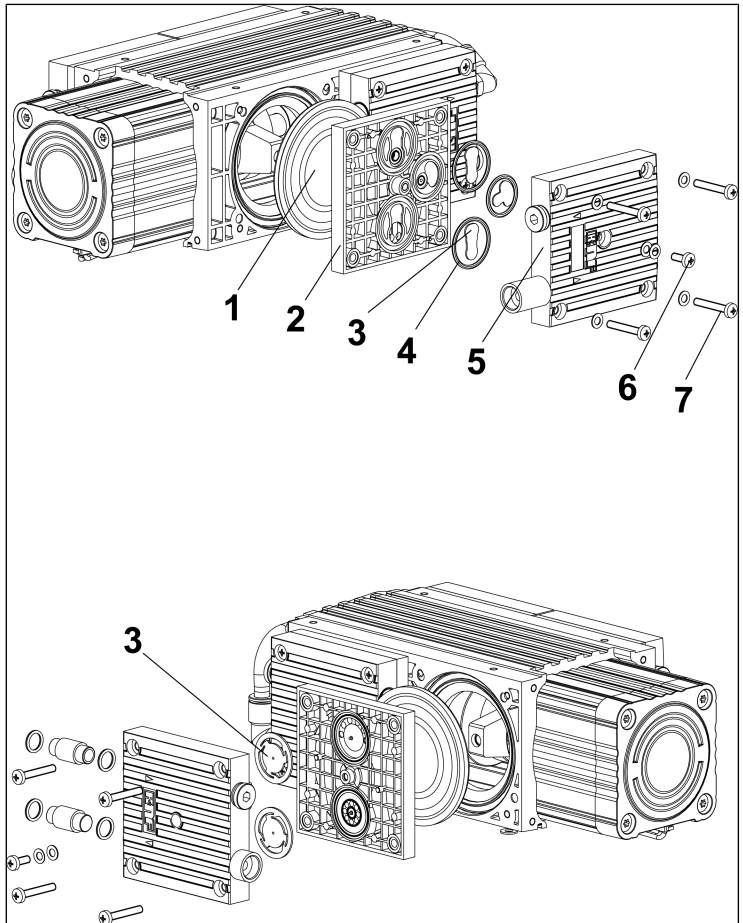

Fig. 7: Exploded view
**see Fig. 7
7. Loosen the outer 8 fastening screws (7/ Fig. 7) of the heads (1 and 2) and remove the heads (1 and 2).
4. Place heads 1 and 2 on the compressor housing and tighten the fastening screws (7/Fig. 7) finger-tight in a crosswise pattern (tightening torque: 3.5 Nm).